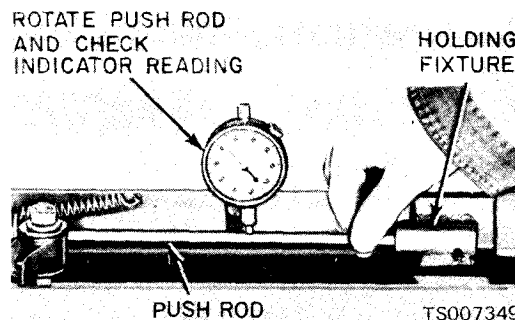

Figure 6-20. Checking Pushrod Straightness
- (1) Check the ends of the pushrods for nicks, grooves, roughness or excessive wear.
- (2) The pushrods can be visually checked for straightness while they are installed in the engine by rotating them with the valve closed. They also can be checked with a dial indicator as shown in figure 6.20. Maximum permissible runout is 0.015 inches.